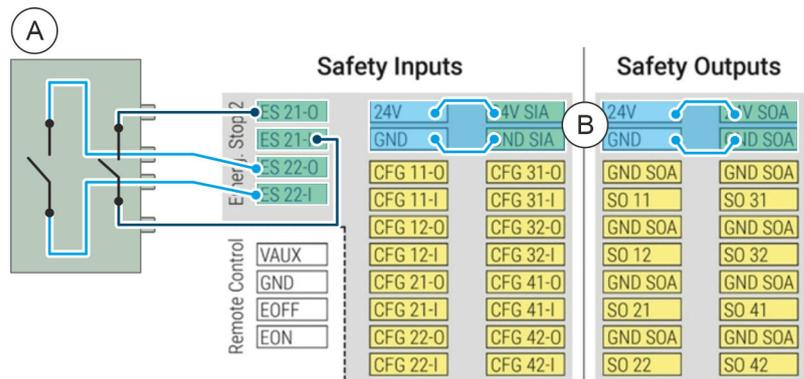

Fig. 74 Connecting emergency stop switches (example)
- (A) Emergency stop switch
- (B) Internal power supply
01. When connecting an external emergency stop switch, note the example configuration in Fig. 74.
02. Ensure that the internal power supply for the interfaces is guaranteed in accordance with Fig. 74.